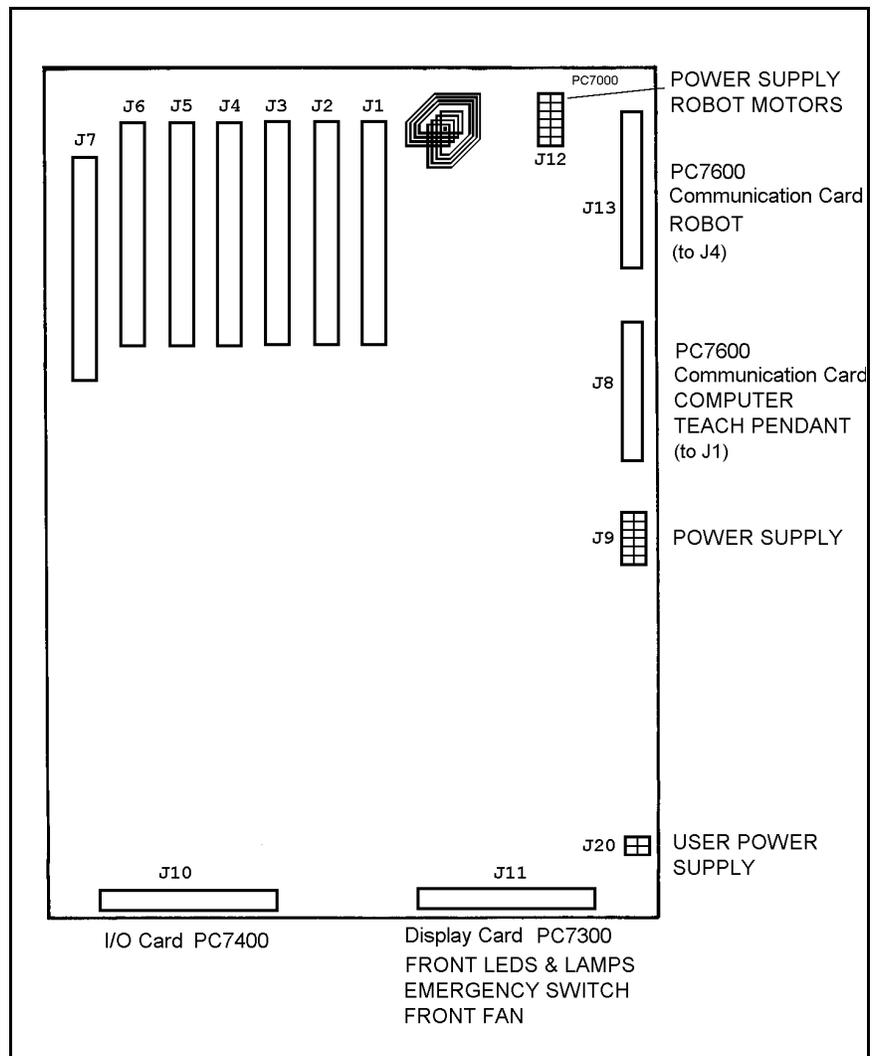

Figure 8-5: Main Board - Connectors
- Refer to Figure 8-5. Check the flat cable connection between:
- Refer to Figure 8-5. Check the flat cable connection between the I/O card and the main board (J10).